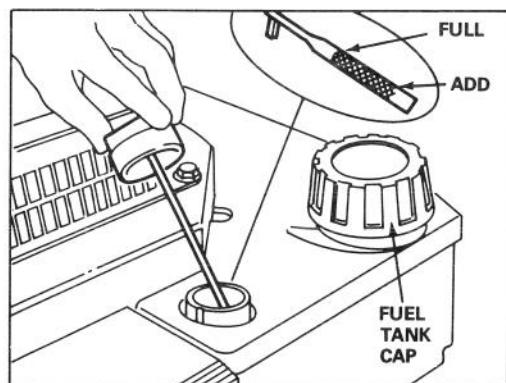

Figure 3
3. Wipe dipstick and insert it into filler neck. Rotate cap clockwise 1/4 turn. Then remove dipstick and check level of oil (Fig. 3). If level is low, add only enough oil to raise level to FULL mark on dipstick. DO NOT FILL ABOVE FULL MARK BECAUSE ENGINE COULD BE DAMAGED WHEN STARTED.
1. Clean around fuel tank cap and remove cap from tank (Fig. 3). Using unleaded gasoline, fill fuel tank to within 1/2 inch (13 mm) from top of tank.